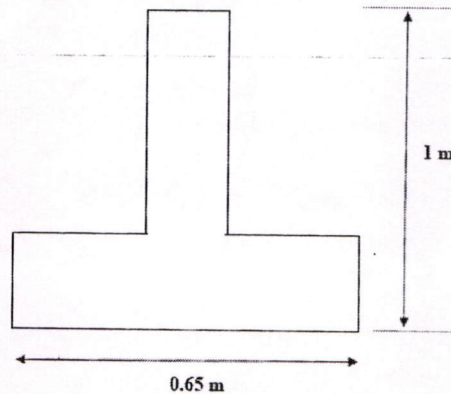

Figure 1
6. A). The square footing shown in the below figure 1 of width 0.65 m is designed to carry a load of 294 kN. Find the ultimate bearing capacity of soil using Meyerhoff bearing capacity equation. Unit weight of soil = 18.15 kN/m^3 , $\phi = 35^\circ$, $C = 0$, depth of footing = 1m. 10M
6. B). The square footing shown in the above figure 1 of width 0.65 m is designed to carry a load of 294 kN. Find the ultimate bearing capacity of soil using Hasen's bearing capacity equation. Unit weight of soil = 18.15 kN/m^3 , $\phi = 35^\circ$, $C = 0$, and depth of footing = 1m. 10M